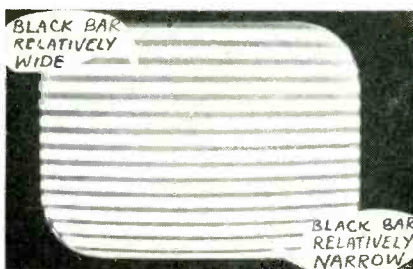

Fig. 4—Bar width variations indicates hum in video amplifier.
**A.** This situation is shown in Fig. 4. It is caused by the presence of hum voltage in the video amplifier, which causes the resultant peak voltage of the testing voltage to vary from top to bottom of the screen. When this condition is present, you will also note that the picture changes in shading from top to bottom.